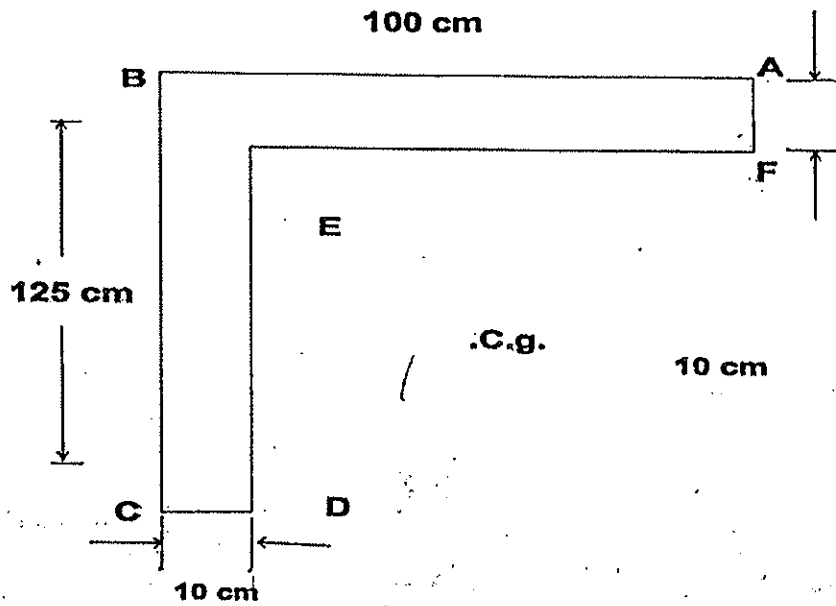

Figure 1
- (iii) A bending moment of 3000 Nm is applied to the cross - section shown in Figure 1 at an angle of 30 to the vertical y-axis such that M_x and M_y both produce tension in the positive x-y quadrant. Obtain the expression for bending stress. 10